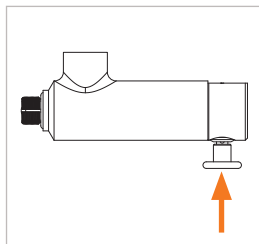

Figure 8
- ▶ Press the valve button (Pos. 4) (*Figure 8*). The clamping jaws will close together.